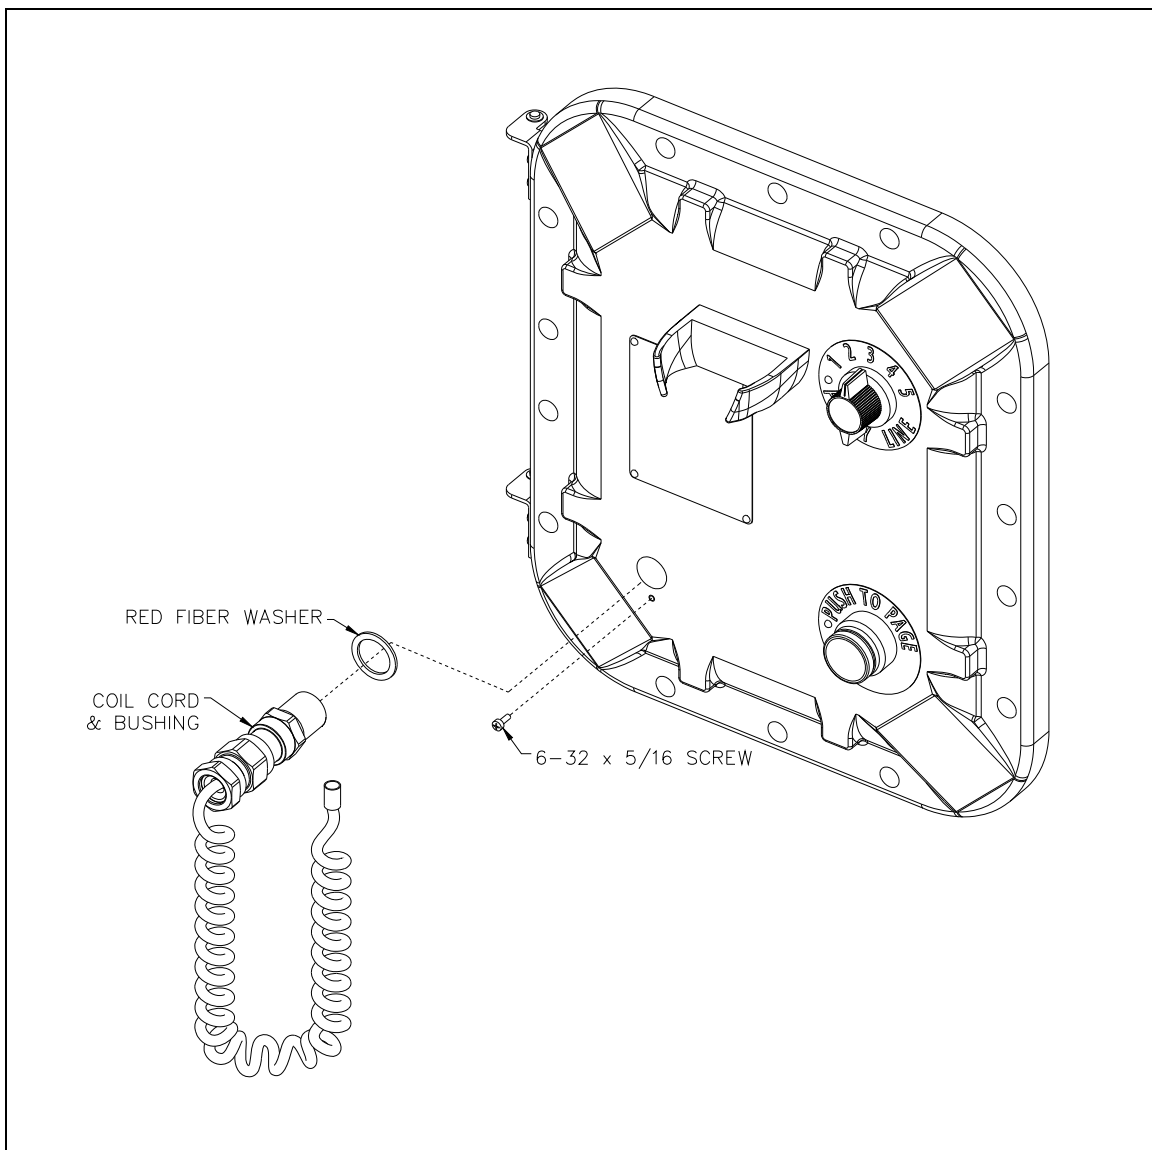

Figure 3. ICS/SP2 Hazardous Area Station—Front View
1. Place the red fiber washer onto the new coil cord bushing and screw the assembly into the front of the enclosure (see Figure 3).